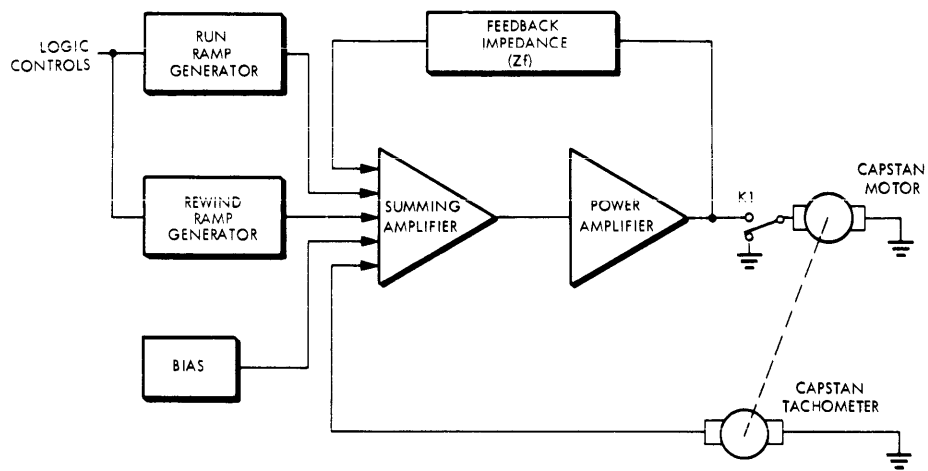

Figure 4-2. Capstan Servo Block Diagram
The Capstan Servo is a dc velocity servo which acts as the prime tape mover and pulls tape across the magnetic head assembly for data recording or reproduction. The capstan servo consists of the functional blocks shown in Figure 4-2.
- (1) With power applied and tape loaded, relay K1 (Figure 4-2) is energized, tying the Capstan Motor to the Power Amplifier.
- (2) Upon receipt of a SYNCHRONOUS FORWARD command (ISFC) the Run Ramp Generator produces a ramp input to the Summing Amplifier.
- (3) The Summing Amplifier controls the Power Amplifier which applies voltage to the Capstan Motor.
- (4) The Capstan Motor turns as a function of applied voltage and accelerates at a constant rate (controlled by the ramp slope) to its nominal running speed.
- (5) The dc Capstan Tachometer generates a voltage proportional to the capstan speed. This voltage produces a current which is compared by the Summing Amplifier with the input control voltage to achieve constant velocity.
- (6) An electrical feedback, Z_f , is also provided. This impedance represents the electrical feedback used to control servo bandwidth and amplifier gain.
- (7) When an ISFC is terminated, the servo is decelerated to a stop with the same type of ramp profile.
- (8) For rewind operation the rewind ramp is used in conjunction with a reverse ramp to provide the current necessary for high-speed rewind motion.